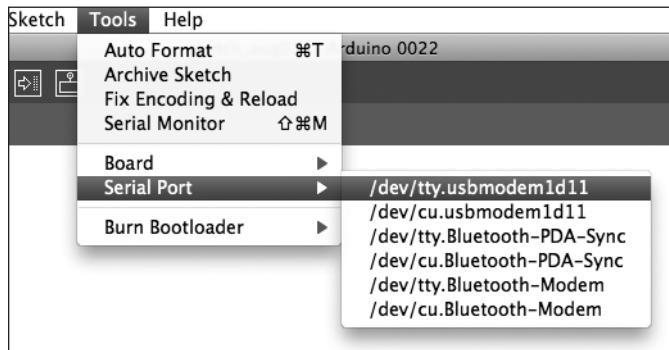

Figure 1-13: Selecting the USB port
3. You're almost there—just two more things to do before your Arduino IDE is ready to use. First, you need to tell the IDE which type of socket the Arduino is connected to. Select **Tools** ▶ **Serial Port** and select the `/dev/tty.usbmodem1d11` option, as shown in Figure 1-13.